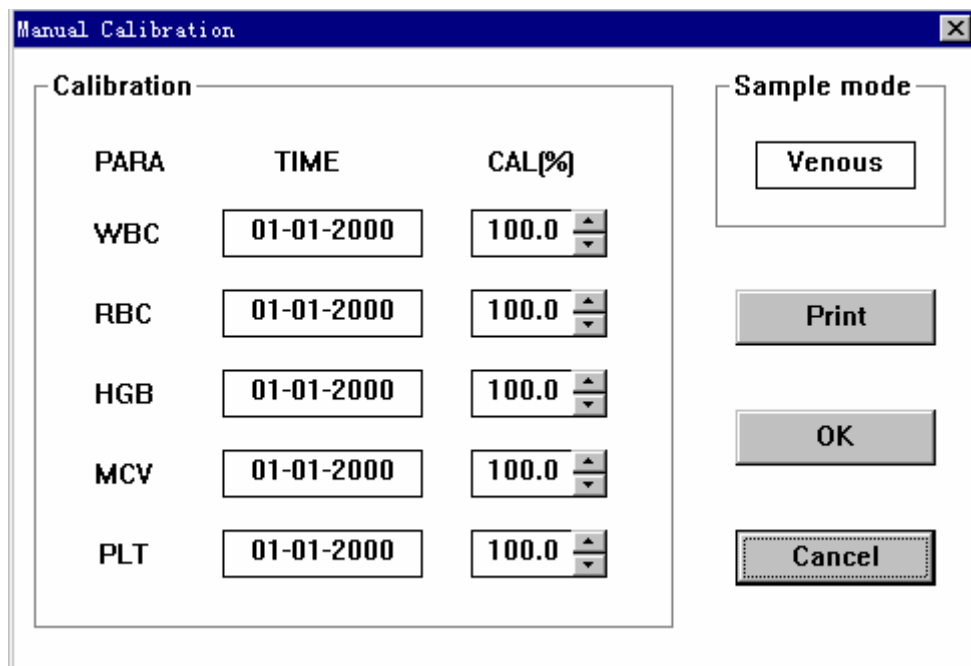

Figure 5-1
- a) In the blood cell analyzer window, press the right key of the mouse, pops up the menu. Select **“Manual Calibration”** in the menu, enters the calibration window, as shown in figure 5-1.